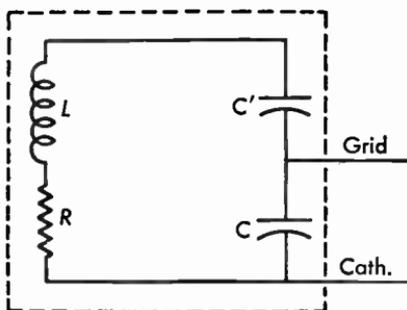

Fig. 6.06 Equivalent circuit of an oscillator crystal.
6.06 Figure 6.06 represents the equivalent circuit of a crystal-controlled oscillator. If $L = 3.5$ henries, $C = 5$ micromicrofarads, $R = 6000$ ohms and $C' = 0.05$ micromicrofarad, what change in